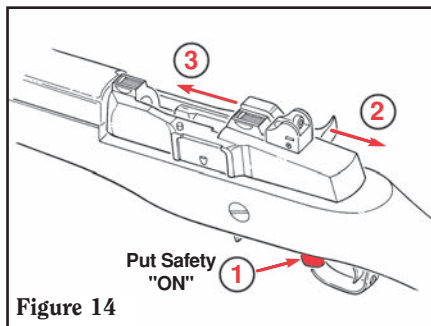

Figure 14
2. Pull the slide handle all the way to the rear and release. Make sure safety is “ON” (see Figure 14). NOTE: Hammer must be cocked and safety must be “ON” to accomplish disassembly and reassembly. **Again, be sure chamber is empty!**